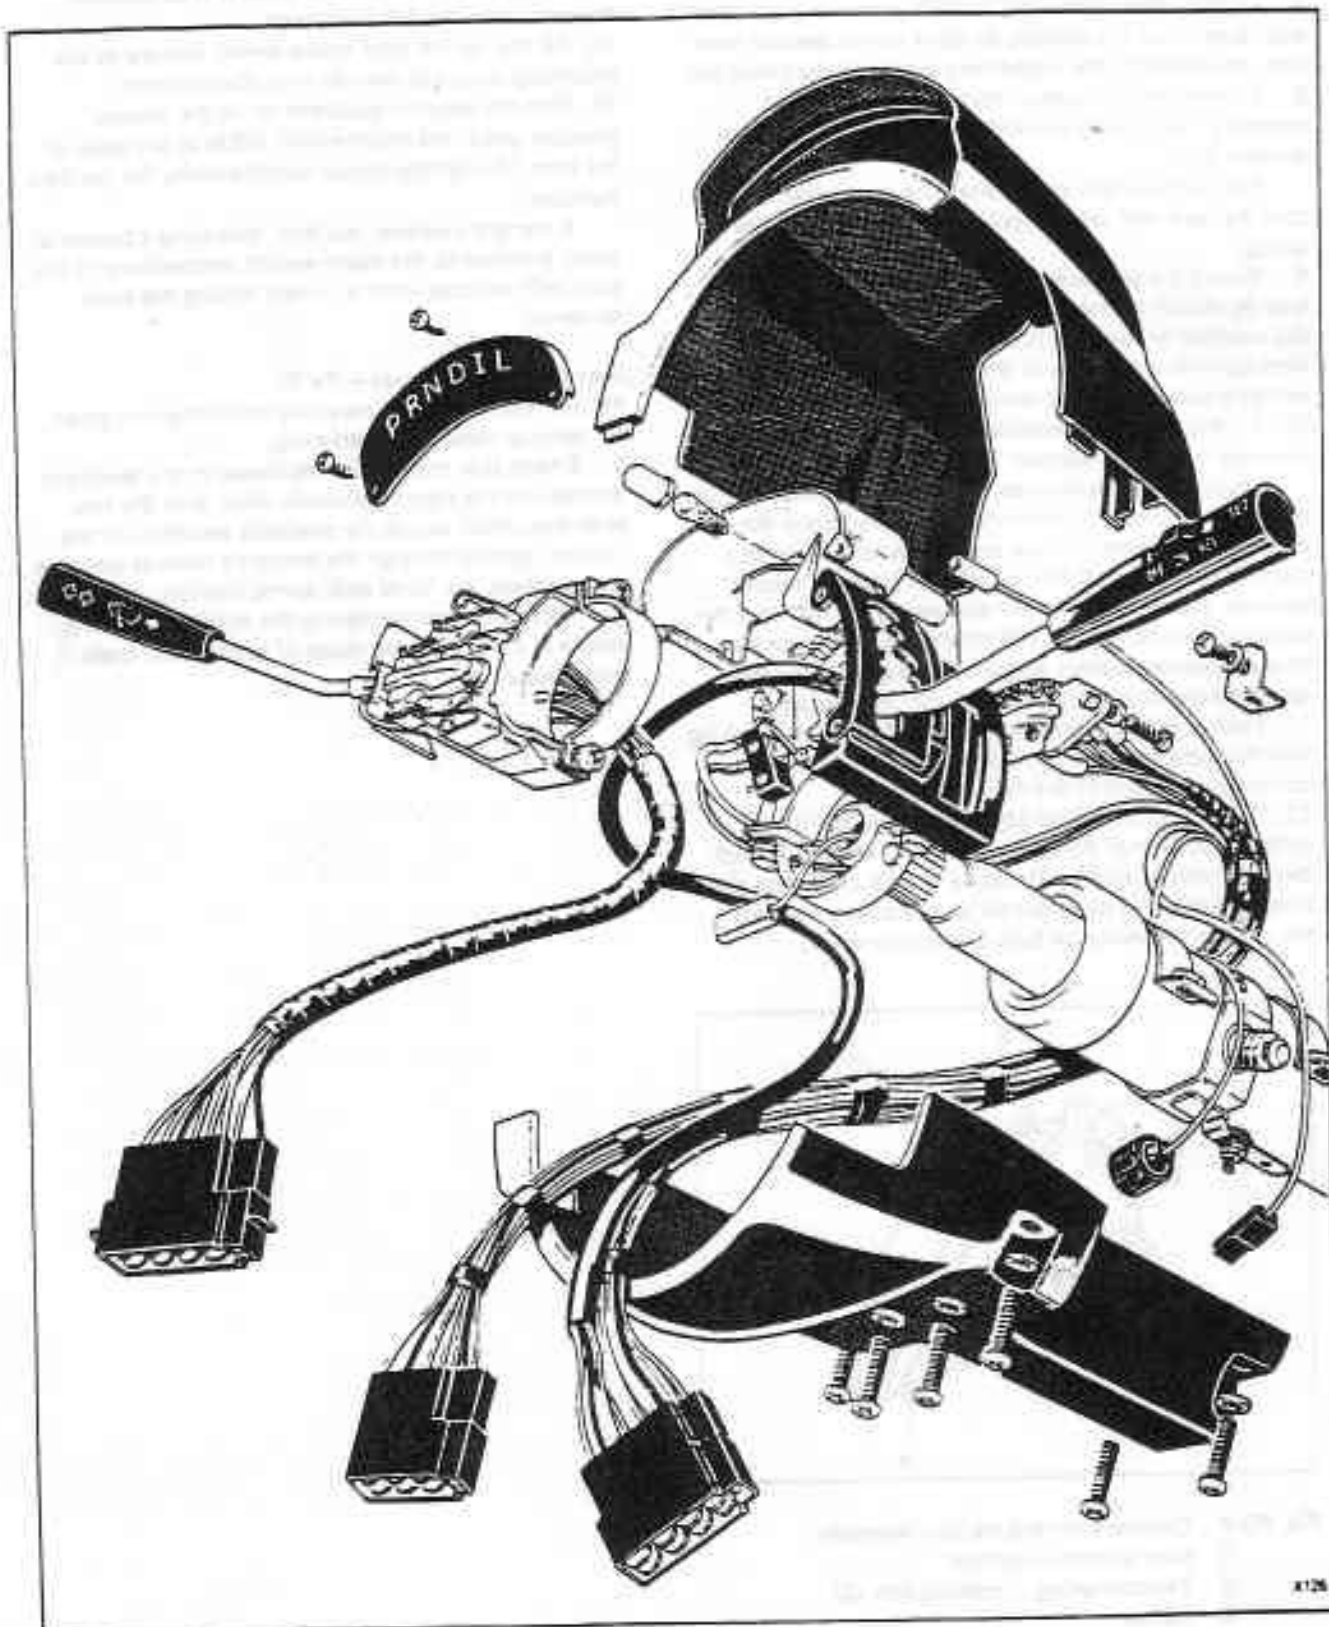

Fig. N3-3 Gear range selector, direction indicator, wash/wipe units, upper and lower cowlings
**Direction indicator/headlamp flasher lever and windscreen/headlamps washer switch – To remove and fit (refer to fig. N3-3)**
**Gear range selector unit — To remove (refer to fig. N3-3)**